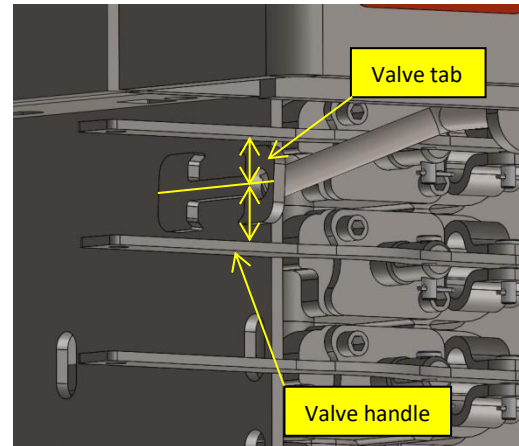

Figure 7
6. Adjust the spring plungers so that the tips of the plungers are just touching the centering tab and tighten the nuts. Center the valve tab vertically and verify that the catches on the valve tab are between the valve handles as shown (**Figure 7**) and tighten the two (2) set screws in the centering tab.